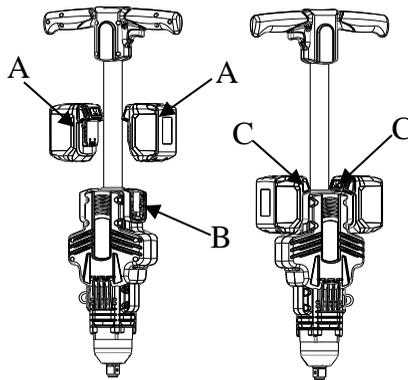

Fig.2
**TO REMOVE BATTERY PACK:** Depress the battery release button (C) and pull battery pack (A) out of tool (B). (see Fig. 2)
**TO INSTALL BATTERY PACK:** Push battery pack(A) onto tool until it locks in place. (see Fig. 2)